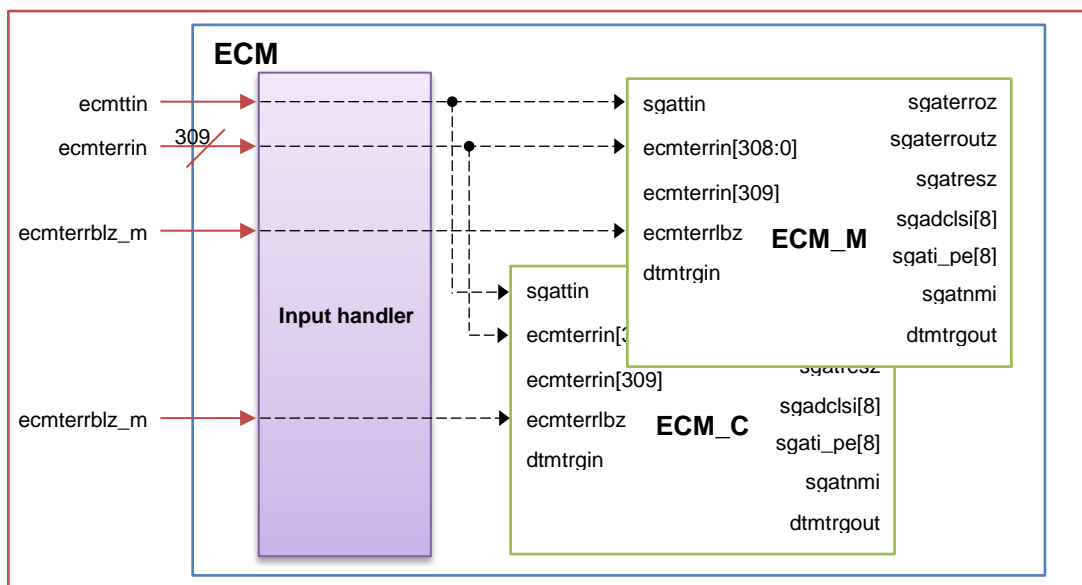

Figure 3.2: Disposing input signals
- “Input handler” block receives external input signals. After disposing those input signals, this block will transfer signals to “ECM_M” and “ECM_C” blocks. (refer Figure 3.2)